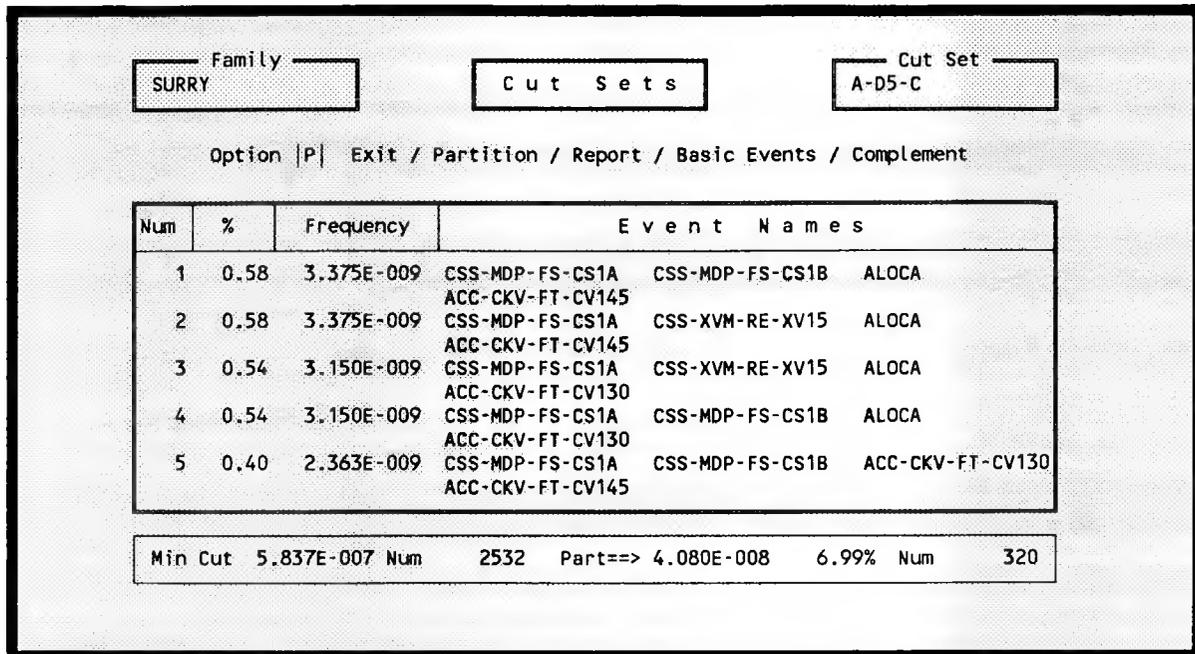

Figure 210. Using EXclude to partition a system.
EXclude: To establish a partition via this option, type <X> in the option field, then fill in the entry fields on the screen that are to be used to qualify the events that are not to be included in the new partition and press <Enter>. The application proceeds to qualify the events. When it is complete it will update the Number of Qualified Events field that appears at the top of the screen. In this case, qualified events are those that do not contain any of the excluded attributes. Returning to the Cut Sets screen via the Exit option you will see that the sequence cut set list contains only those cut sets that are made up of qualified events (see Figure 210) If the sequence cut sets do not contain any of the qualified events, then the message **No cutsets qualify** is displayed at the bottom of the screen.
7.4.2.5 Complement. The Complement option operates on the current sequence partition. Its function is to set all currently qualified cut sets to unqualified. This allows you to split a system into two partitions and then switch between the two partitions to view the results. To invoke this option, type <C> in the option field and press <Enter>. (Assume the partition shown in Figure 209). Type <C> and press <Enter>. The resulting display is shown in Figure 210).